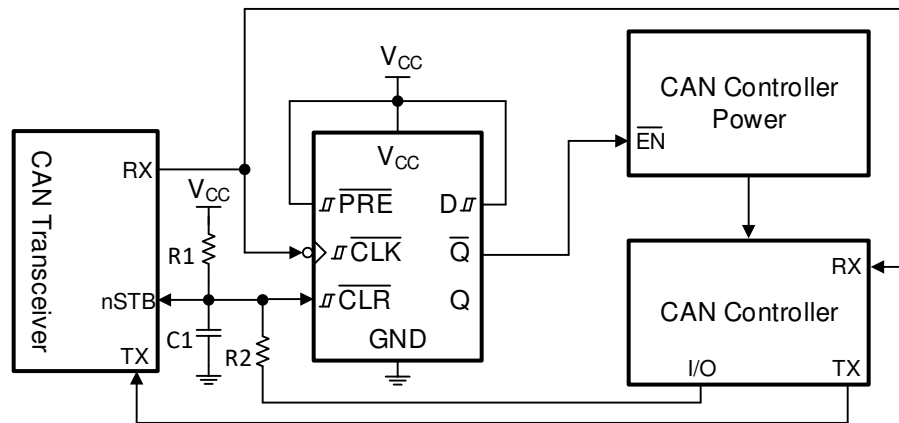

Figure 12. Power Enable Using CAN Wake-up Request
With the SN74HCS72-Q1, a power on reset circuit only requires a resistor (R) and capacitor (C) to create a delay. The R and C values create a delay that is approximately $2.2 \times RC$. In this application, it is desired to have the output ($\bar{Q}$) in the HIGH state at startup, so R1 and C1 are connected directly to the $\bar{CLR}$ pin, as shown in Figure 12. A second resistor is needed to limit the current into the CAN controller when it sets the circuit back into standby mode. It is required for the R1 resistor to be at least ten times larger than R2 to avoid a divider circuit ($R2 \leq 10R1$).